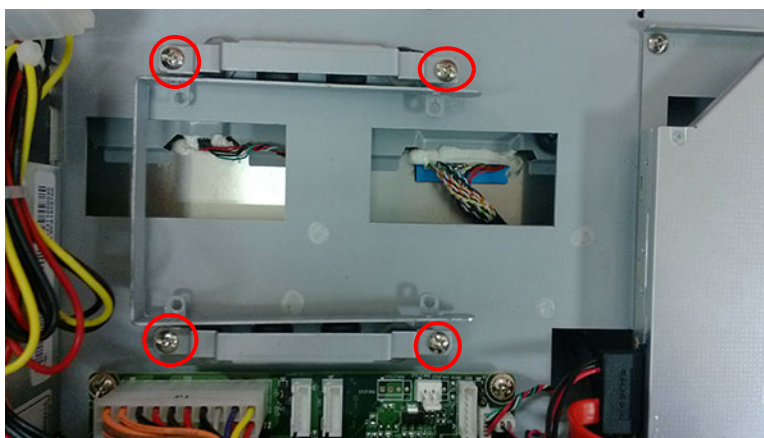

Figure 2.14
2. Take down the HDD hold-down clamp. (See Fig 2.14)